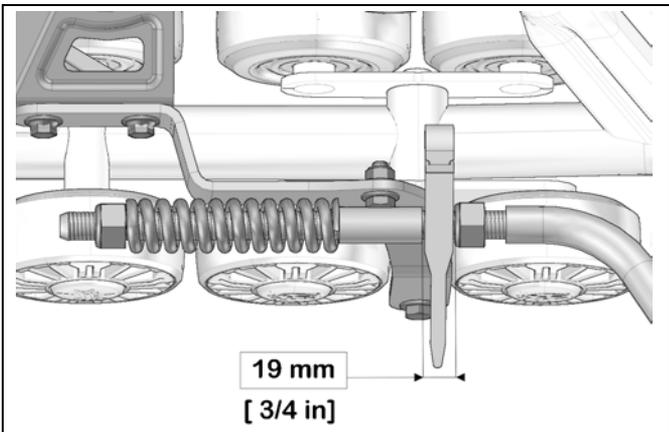

Figure 11
- **IMPORTANT:** Double-check the 19 mm minimum distance between nut and stabilizing arm guide. Re-adjust as needed. See Figure 11.